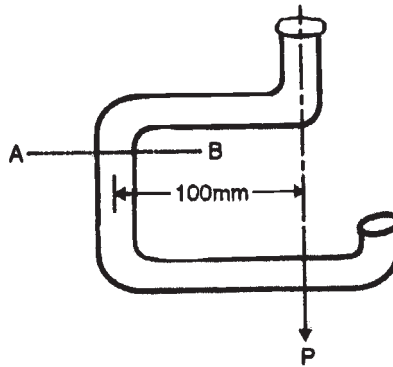

Fig. No. 3
- d) A mild steel tube 50 mm external dia and 10 mm thickness is bent in the form of hook as shown in Fig. No. 3. What maximum load 'P' the hook can lift, if the stresses on the cross section 'AB' shall not exceed 90 MPa in tension and 40 MPa in compression?